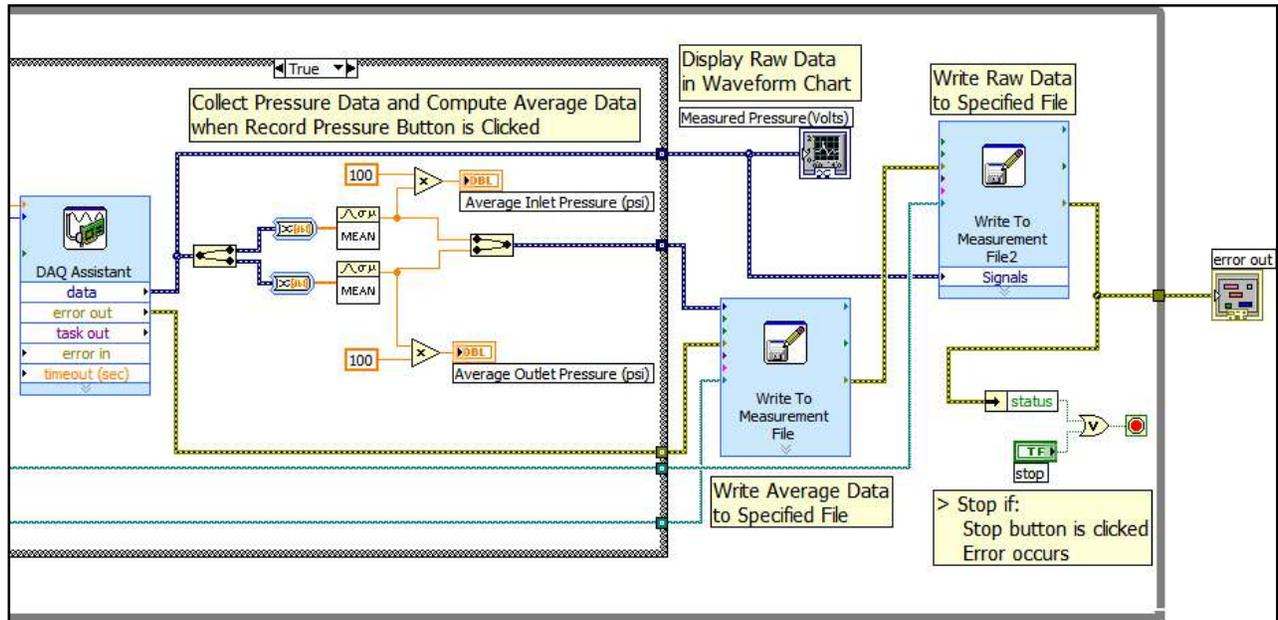

Fig. 4. Display and Record Data
- Data is **read**, **averaged**, **displayed**, and **written to files** until the **STOP** button is clicked or until an error occurs in the reading process. See Fig 4.